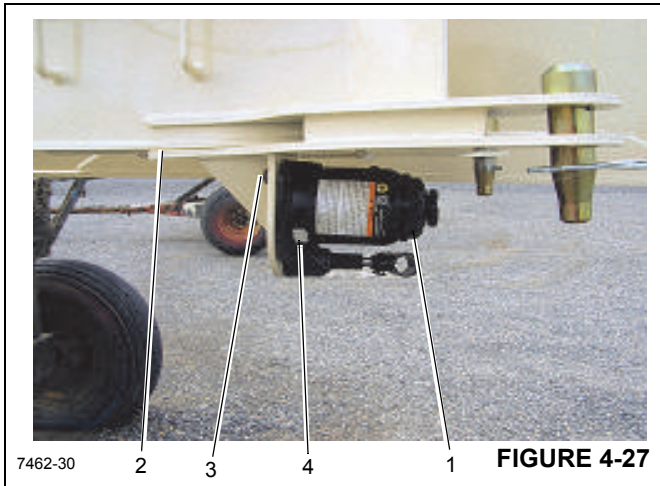

FIGURE 4-27
Remove the jack (1) from the jib boom (2) by removing three bolts and flatwashers (3). Refer to (Figure 4-27)
1. With saddle fully lowered and piston depressed, set jack in its upright level position and remove oil filler plug. (4, Figure 4-27).
2. To drain the oil, remove the filler plug (4, Figure 4-27).